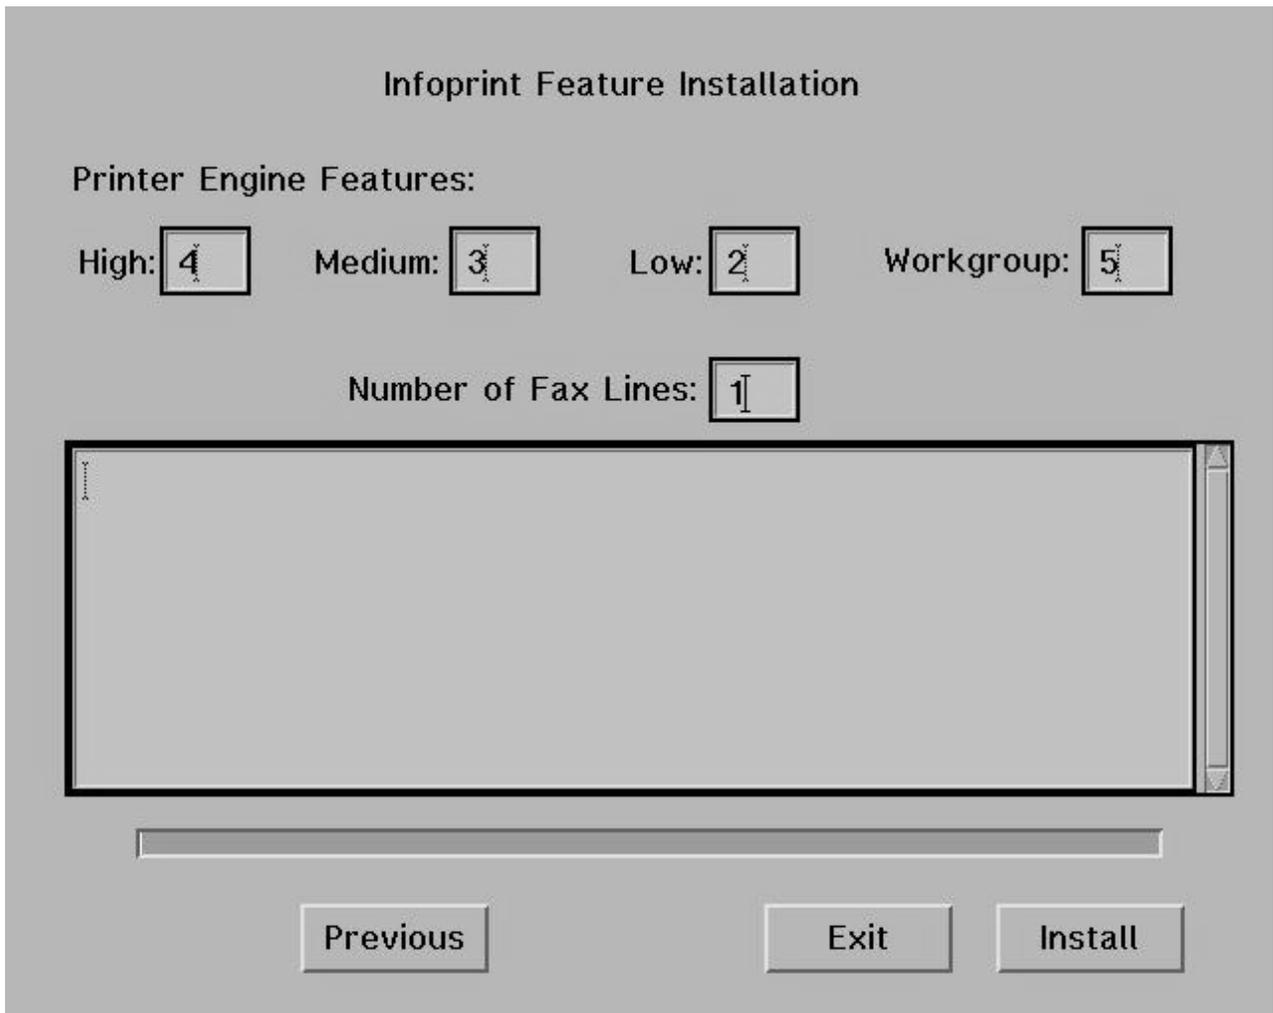

Figure 6. Infoprint Feature Installation panel: before installing
- The Installer displays the screen for specifying the correct number of licensed printers and whether or not you want to install Fax line support (see Figure 6). Fill in the appropriate information and click **Install**.
6. When you click the **Install** button on Figure 6 on page 27, the Installer: